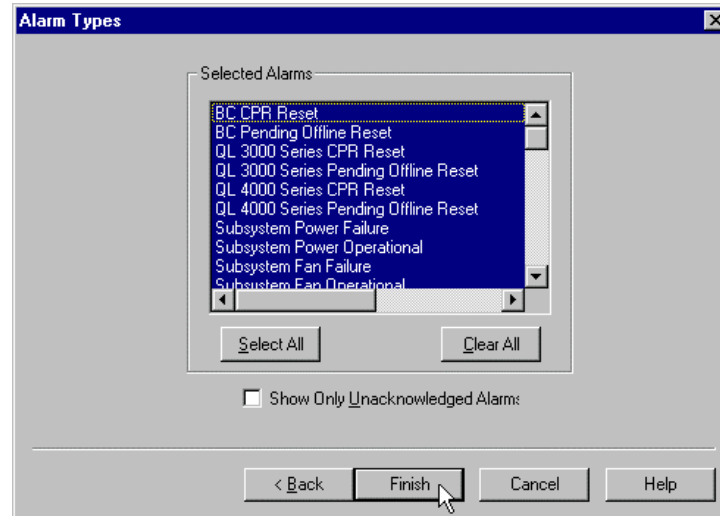

Figure 99 - Alarm Types dialog box
3. Choose which alarm types to include in the report in the **ALARM TYPES** dialog box. Do the following in the dialog box. The report will be created and displayed. See Figure 99.
3. Choose which alarm types to clear from the database in the ALARM TYPES dialog box. Do the following in the dialog box. See Figure 99.